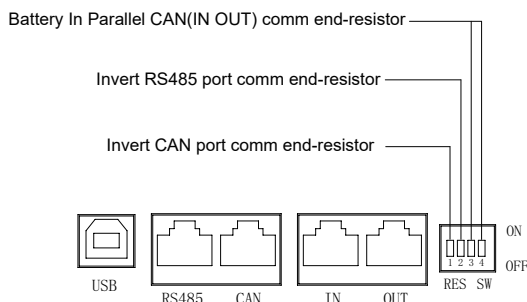

Figure 5-5: Operation of RES-SW switch introduction
1. In order to improve the stability of parallel CAN bus communication between batteries, a "RES-SW" switch is needed, please operate it with the following introduction (as shown in figure 5-5)